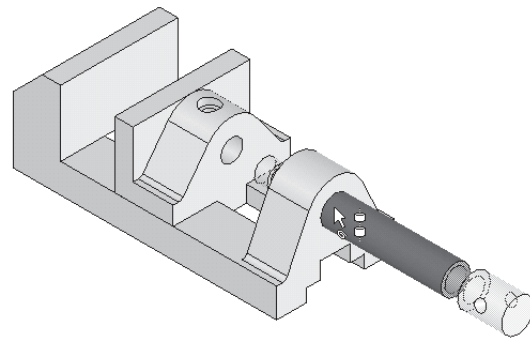

Figure 11-60 Jaw Screw being dragged
6. Drag the Jaw Screw to the hole in the Vice Body, as shown in Figure 11-60; the Jaw Screw appears transparent and the select cursor is replaced by the smart mates cursor. Also, the symbol of concentric mate is displayed below the cursor.